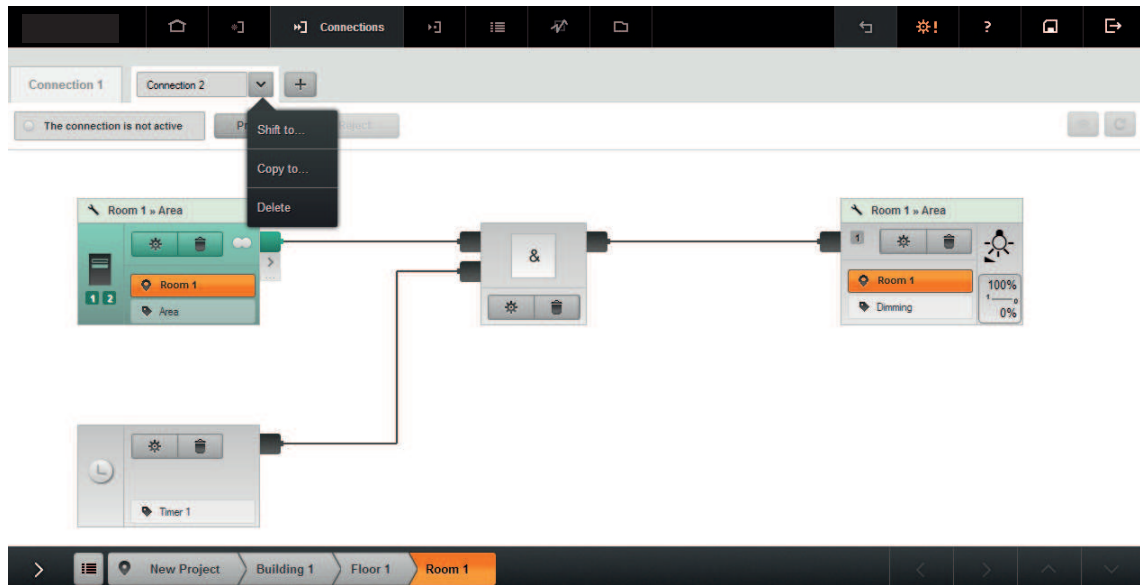

Figure 49: Move to..., copy to..., delete functions
All the functions are recalled via a drop-down menu (Figure 49).
- Using the cursor key , open the menu and select the **Move to** function (Figure 49). A window containing the building structure is opened.
- Using the cursor key , open the menu and select the **Copy to** function (Figure 49). A window containing the building structure is opened.
- Using the cursor key , open the menu and select the **Delete** function (Figure 49).